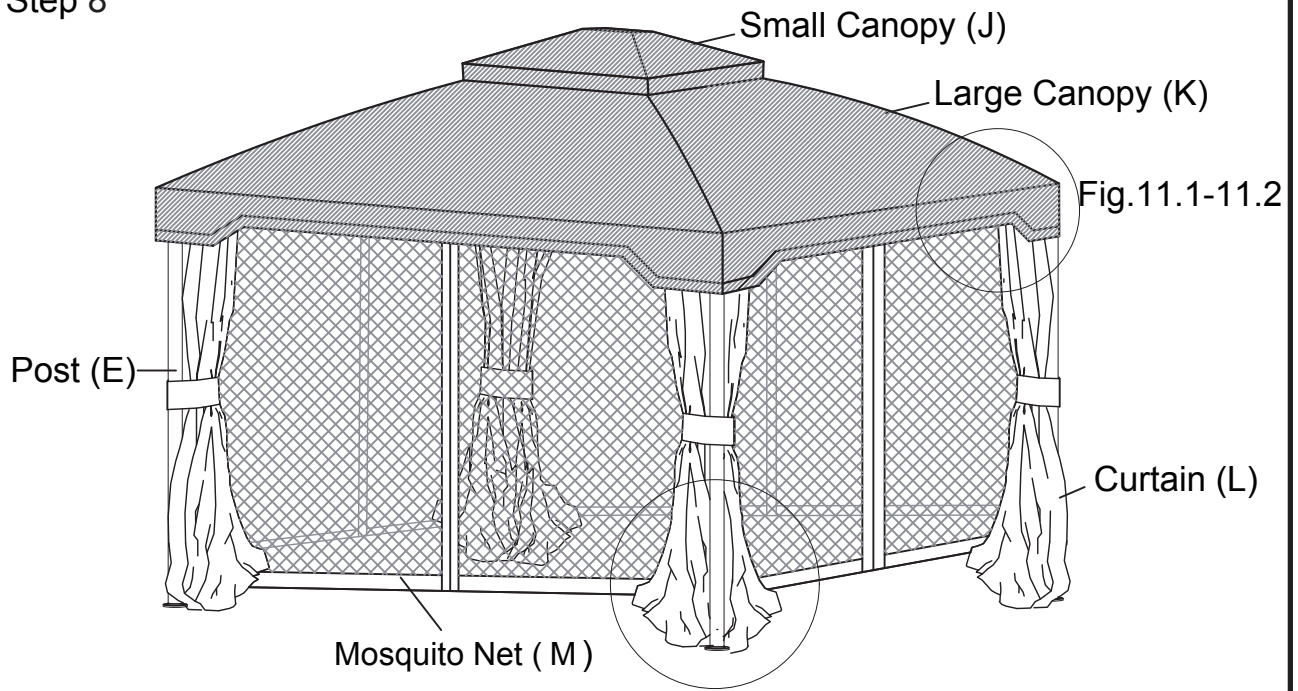

Fig.11.3
Insert the stake ⑥ into the post (E), as shown in Fig. 11.3.